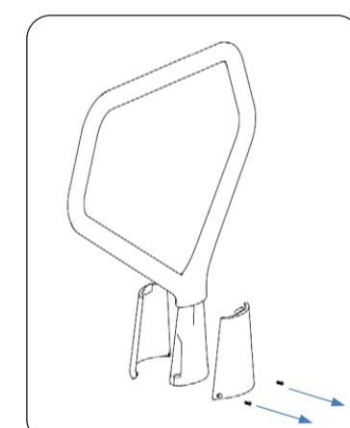

Fig. 2 - remove cover plates
7. Install cover plate (A) by inserting tab end into base casting at the opposite end of the set screw location (see Figure 2).